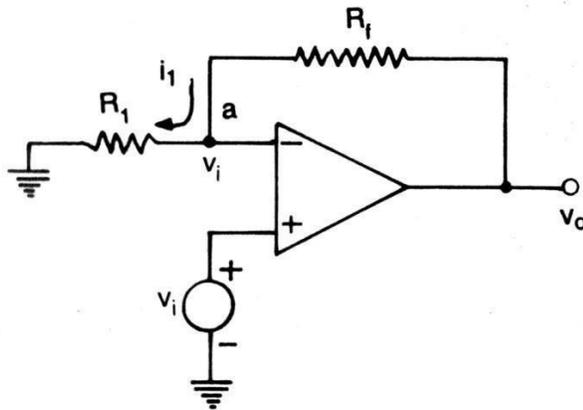

Fig. 2.7 (a) Non-inverting amplifier
- If the signal is applied to the non-inverting input terminal and feedback is given as shown in Figure 2.7(a), the circuit amplifies without inverting the input signal. Such a circuit is called non-inverting amplifier.
- As  $V_d=0$ , the voltage at node 'a' in Figure 2.7(a) is  $V_i$ . Now  $R_1$  and  $R_f$  forms a potential divider.